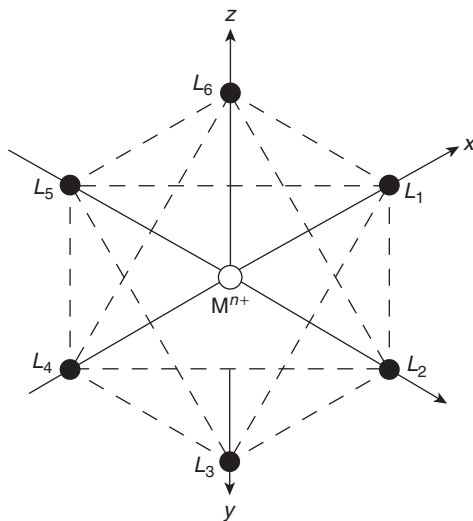

Figure 4 Central metal ion is surrounded by six ligands in an octahedral complex.
1. The coordination number of the central metal ion in an octahedral complex is six. In this complex, the central metal ion is at the center and the ligands occupy the six corners of a regular octahedron as shown in Figure 4. All the three coordinate axes X, Y and Z pass six corners of the octahedron.
2. As shown in Figure 4, six ligands approach to central metal ion along three coordinate axes. Hence, electrons present in two axial orbitals ( $d_{x^2-y^2}$ ,  $d_{z^2}$ ) experience more repulsion from the ligands as compared to the other three non-axial orbitals ( $d_{xy}$ ,  $d_{yz}$ ,  $d_{zx}$ ). As a result, the energy of the two axial orbitals increases. This causes splitting of five degenerate  $d$ -orbitals into two sets of different energies. This